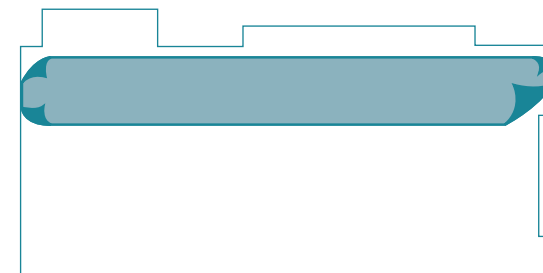

Figure 1 Lining up the First Sheet
- > Adjust the lie of the sheet so that the inner edge is parallel with the axis of the room (Fig 1).